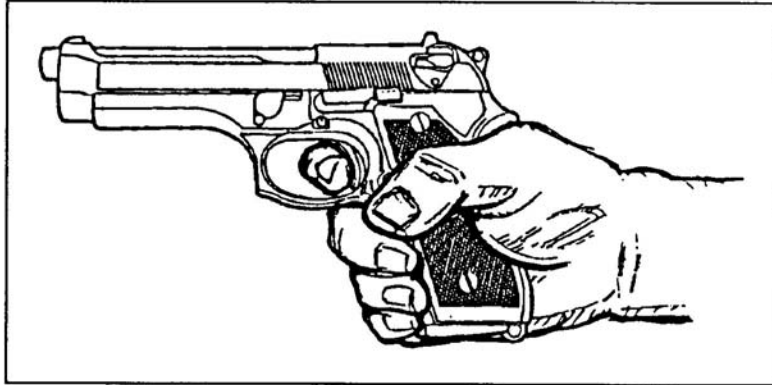

Figure 2. One-hand grip.
- a. Supported grip. The only supported grip is the one-hand grip (Figure 2). Begin by gripping the weapon as described. Allow the thumb of your firing hand to rest without pressure beside your weapon. Place your trigger finger, between the tip and the second joint, on the trigger, so you can squeeze the trigger to the rear. Your trigger finger must work independently of your other fingers.